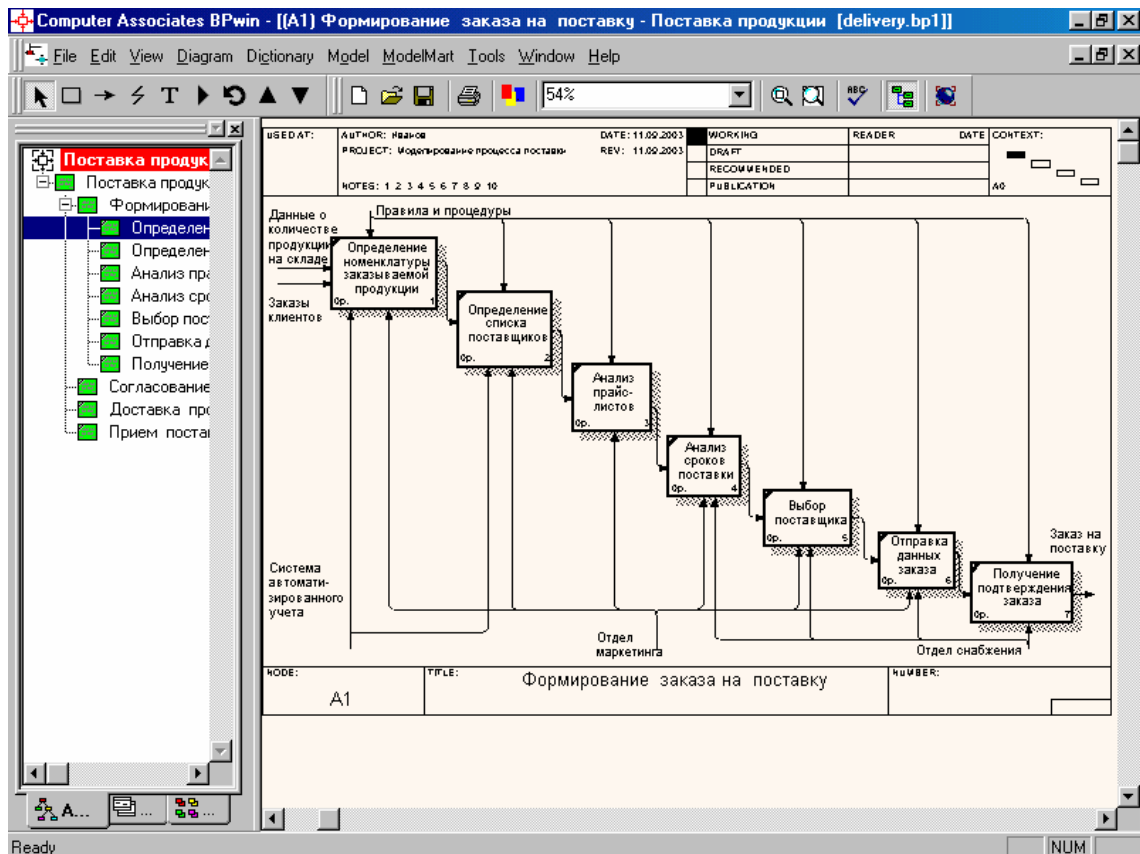

Figure 1.12
5. Rename the arrow "Data on the availability of products in stock" to "Purchase Order" and link to the work "Receipt of order confirmation". Connect all other boundary arrows with the works as shown in Figure 1.12.
6. Draw the inner arrows on the diagram, as shown in Figure 1.12.